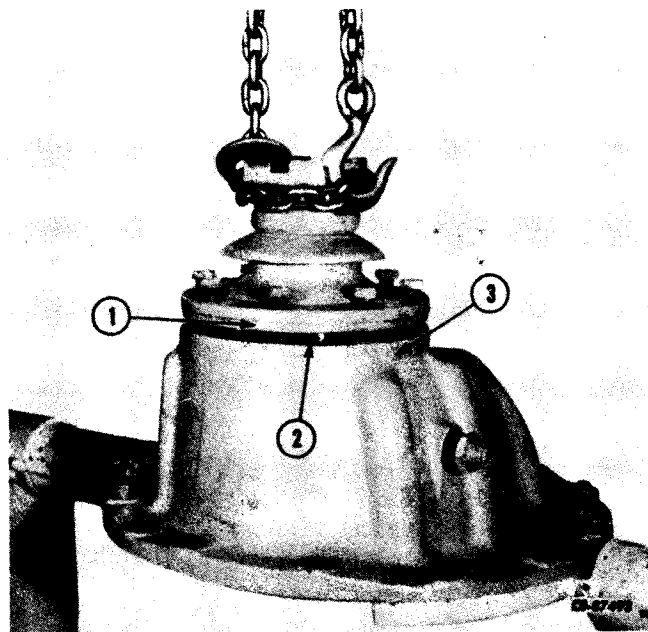

Figure 6-26
Install shim pack (2, Fig. 6-26), removed during disassembly, between the bearing cage (1) and the carrier (3).